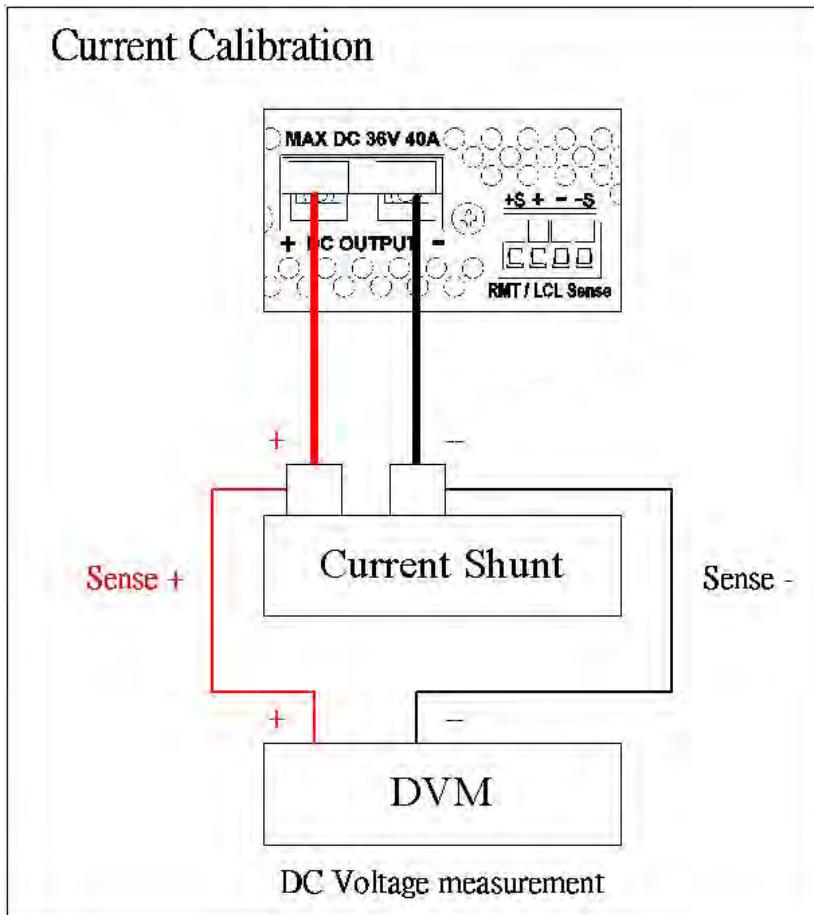

Figure 2
- A. Connect two output terminals of the power supply to two ends of the current shunt, and connect DVM to the sensor of current shunt to measure DC voltage as shown Figure 2. Press **[3]** to enter current calibration screen.